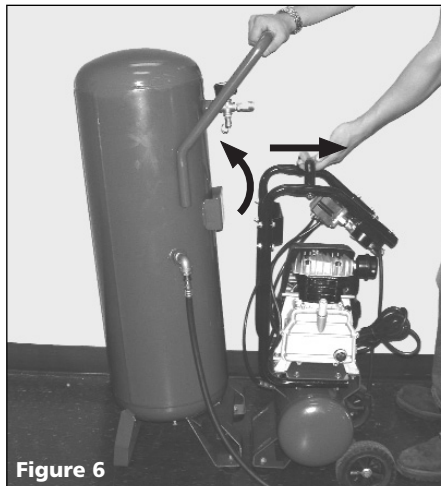

Figure 6
3. Lean back the Large Tank and pull the Small Tank forward to unhook the bottom of the two tanks (See Figure 6).